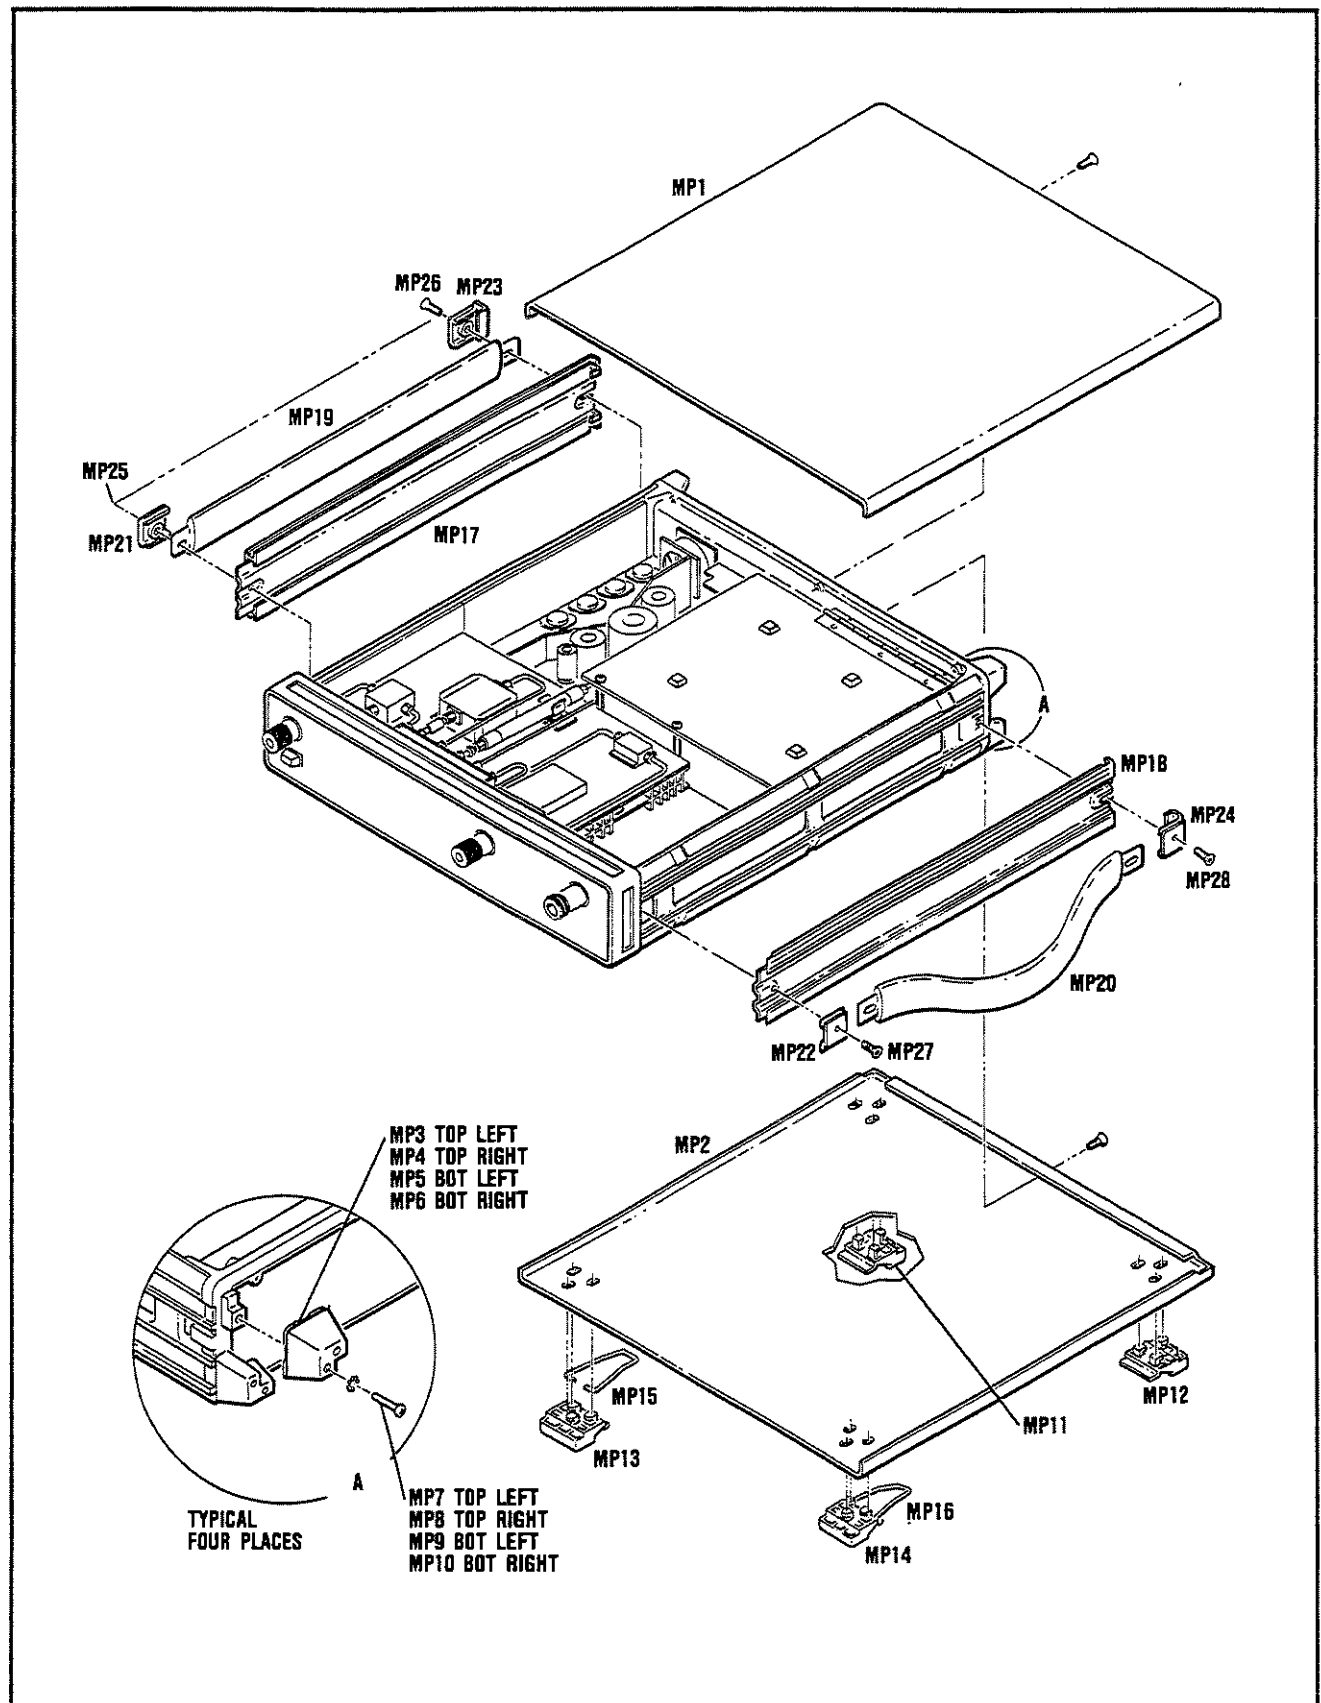

Figure 6-1. External Mechanical Parts
The locations of individual components mounted on printed circuit boards or other assemblies are shown on the service sheet near the related schematic diagram. The part reference designation is the assembly designation plus the part designation. For example, A3R9 is R9 on the A3 assembly. For specific component descriptions and ordering information, refer to Table 6-2, Replaceable Parts, in chapter 6. Chassis and frame parts, as well as mechanical parts (MP) and cables (W), are identified in Figures 6-1 through 6-8 in chapter 6.